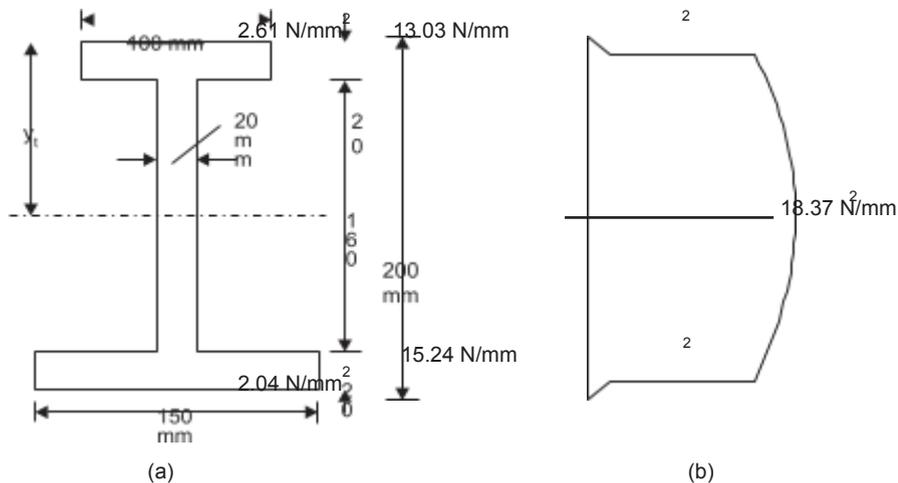

Fig. 21
**Example 9.** The unsymmetric I-section shown in Fig. 21(a) is the cross-section of a beam, which is subjected to a shear force of 60 kN. Draw the shear stress variation diagram across the depth.
At extreme fibres shear stress is zero. Hence variation of shear across the depth of the section is as shown in Fig. 21.